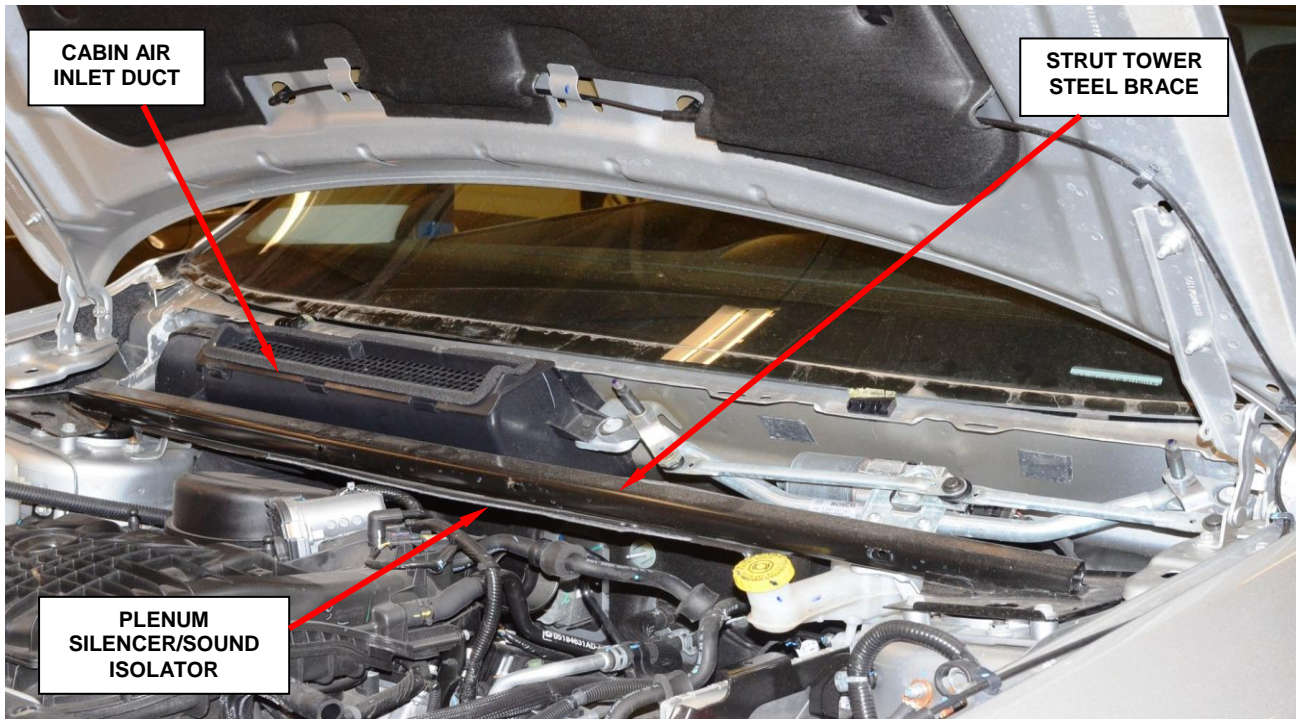

Figure 14 – Strut Tower Steel Brace
8. Remove and save the strut tower steel brace and mounting bolts (Figure 14).
9. Remove and save the cabin air inlet duct (Figure 14).
10. Remove and save the plenum silencer/sound isolator (Figure 14).
66. Install the plenum silencer/sound isolator (Figure 14).
67. Install the cabin air inlet duct (Figure 14).
68. Install the strut tower steel brace (Figure 14).